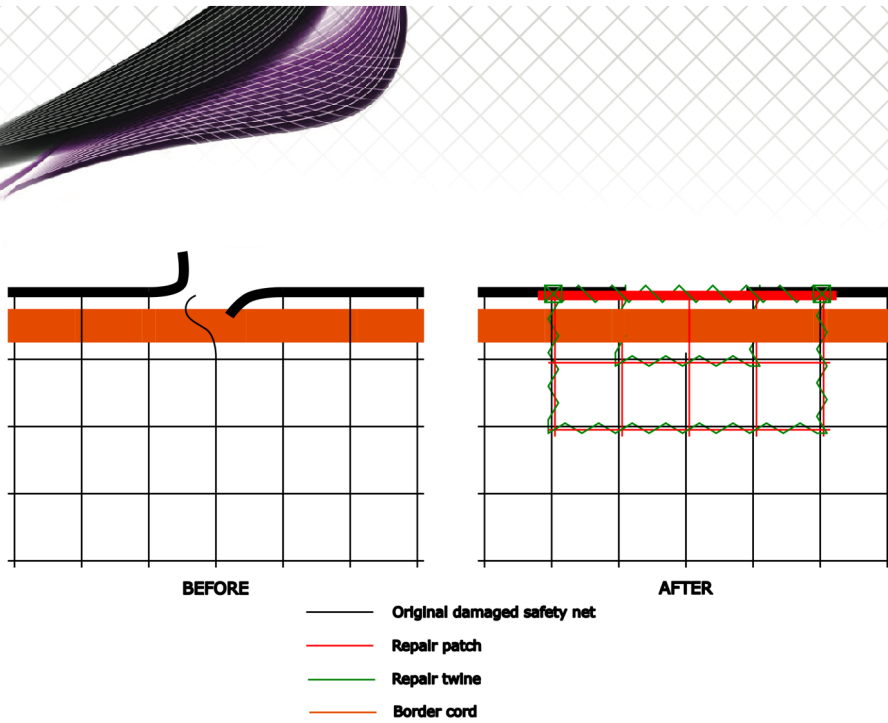

Figure 3. Repair to damaged selvedge using repair twine.
- By lacing repair twine through both the inside and perimeter meshes of the patch (Figure 3).